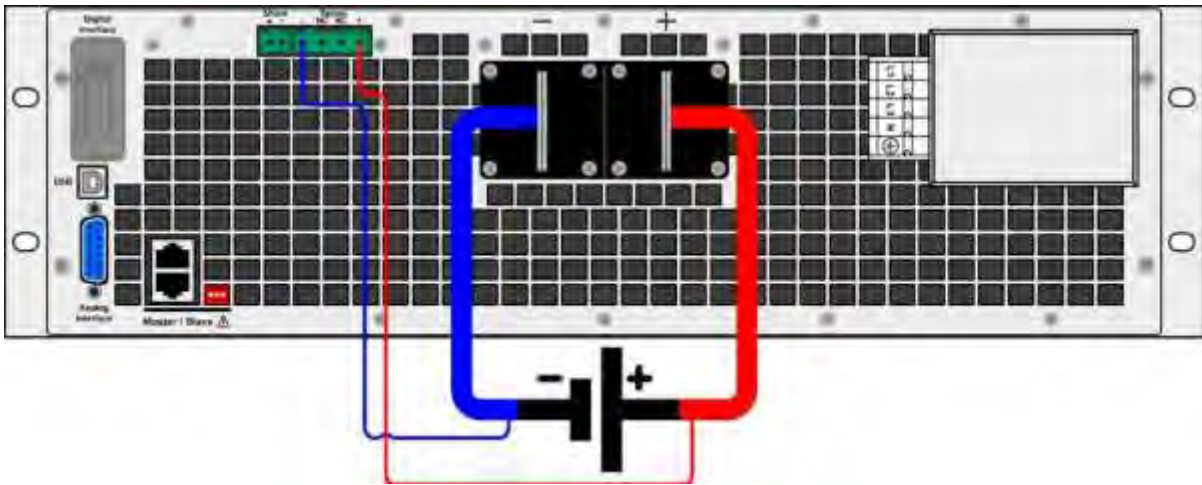

Figure 5-5: External Voltage Sense Connection
- Remote sensing is only effective during constant voltage operation (CV) and for other regulation modes the sense input should be disconnected if possible, because connecting it generally increases the tendency to oscillate.
- The positive (+) sense cables must be connected to the positive terminal (+) on the source and negative (-) sense to the negative terminal (-) at the source, otherwise the sense input stage of the DC load can be damaged by the reversed polarity. See Figure 5-5 below for proper polarity.